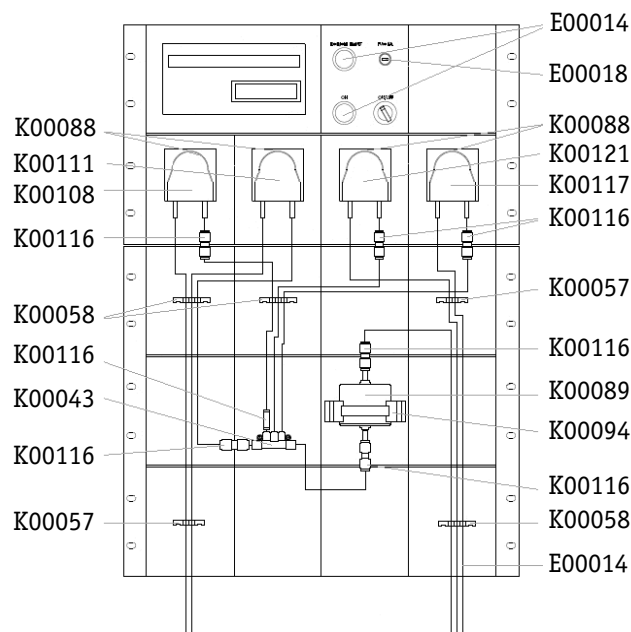

Figure 23 - Spare parts overview
<p>For conveying liquids to the measurement process this SEIBOLD Online-Analyser EASY-Nickel uses three (3) different types of hose pumps. A hose pump is mounted on a sub-plate and has to be connected to the corresponding clamps on the back side of the 19-inch-rack. Screws for mounting the sub-plate to the 19-inch-rack are included in the scope of delivery. Please refer to figure 23, „Spare parts overview“, to see which type is required for replacement.</p>
Hose guides are used to hold hoses at a certain position in the hose system for ensuring unrestricted vertical flow of liquids within the hose system. There are two (2) different hose guides for vertical flow used with this SEIBOLD Online-Analyser EASY-Nickel, namely for 2 and 3 hoses. Please refer to figure 23, „Spare parts overview“, to find the appropriate hose guide for your needs.